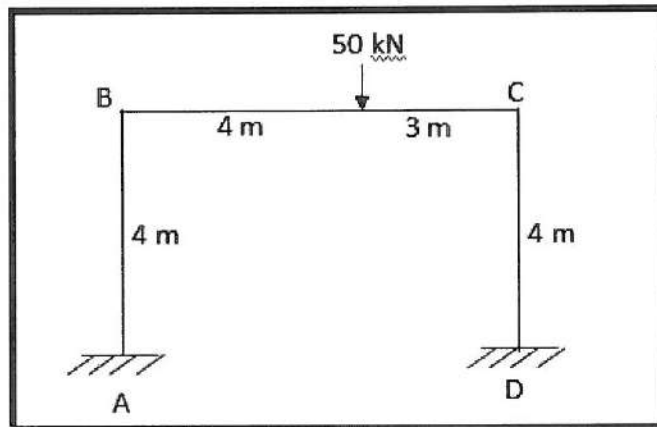

Fig.3
7. Analyse the portal frame shown in Fig.3 by using Moment distribution method and draw BMD?